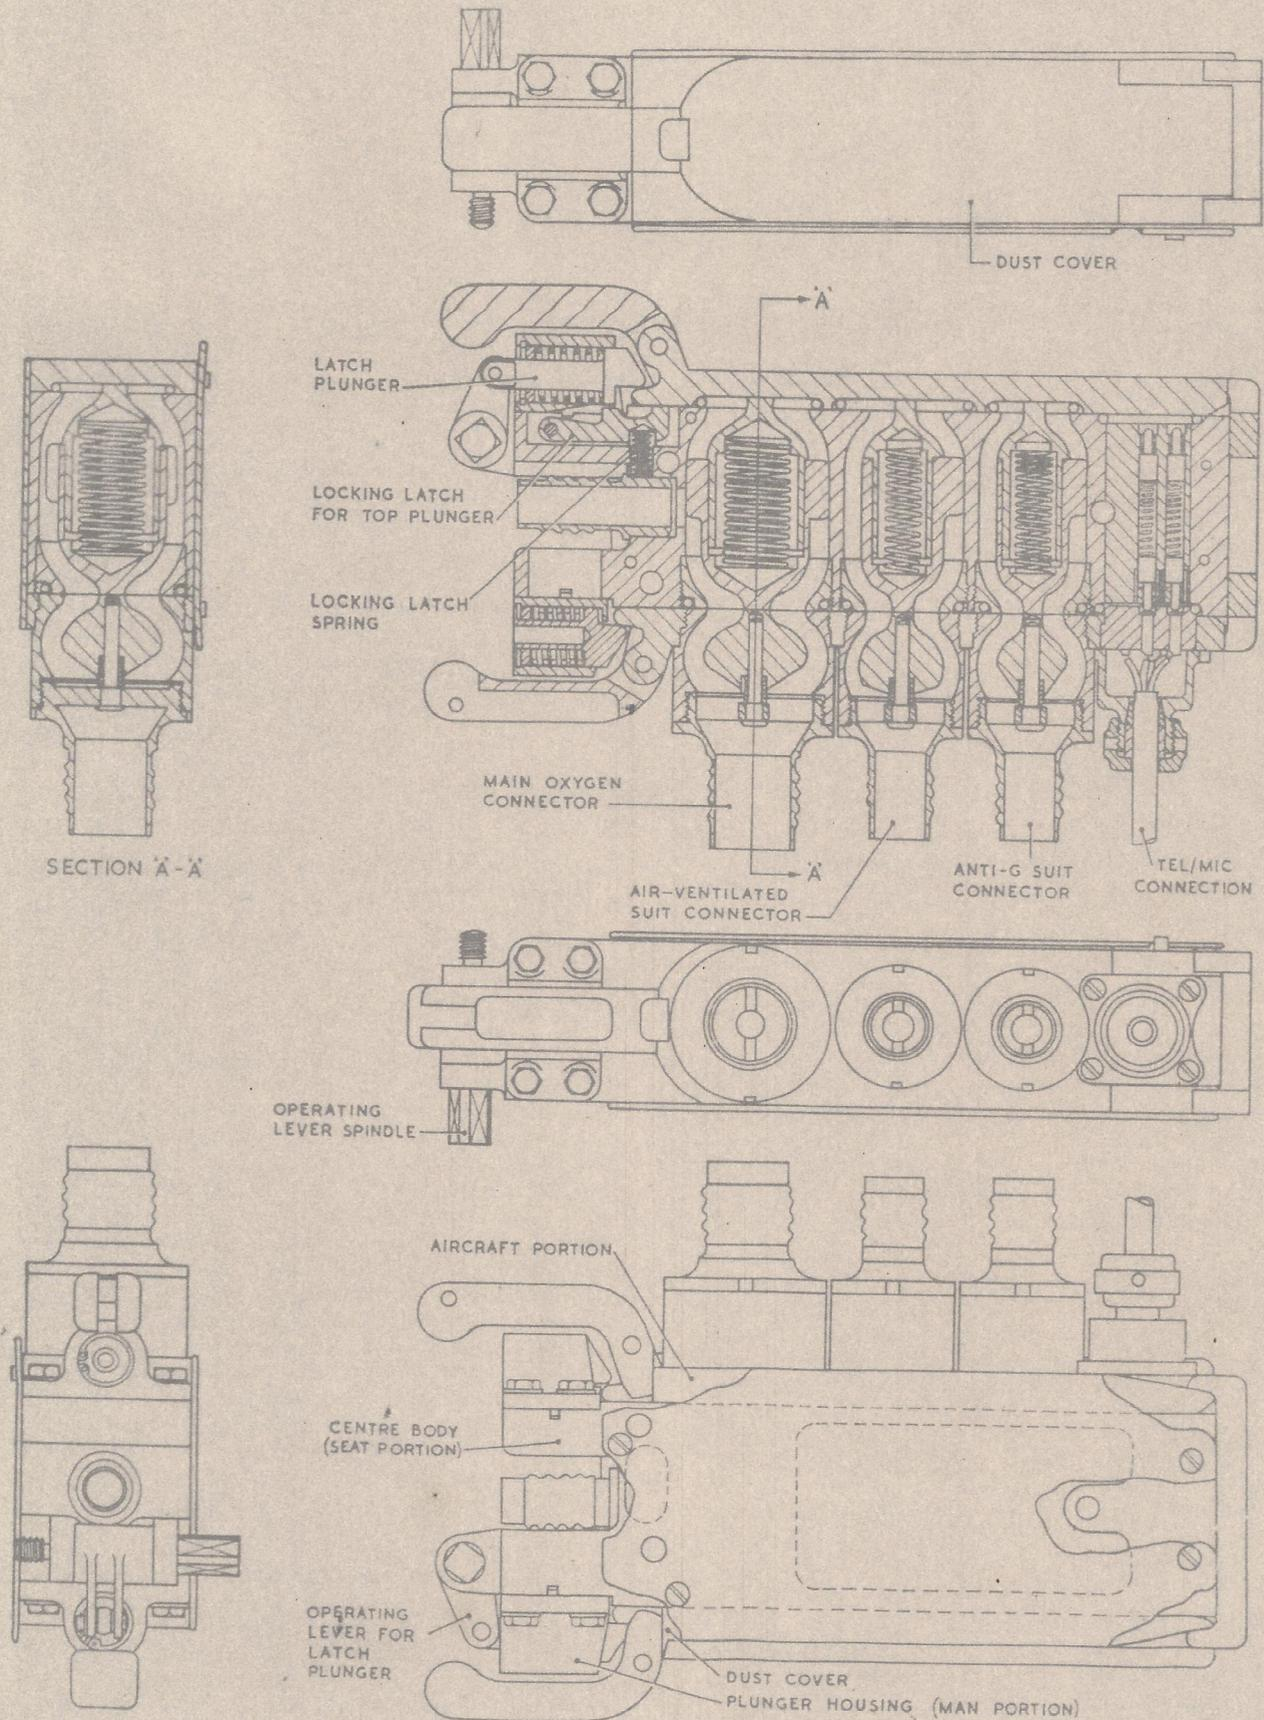

Fig. 1. Details of aircraft and seat components (with dust cover)
4. The personal equipment connector (fig. 1 and 2) consists of three main parts — the aircraft component, the seat component and personal (or man) component. The aircraft component remains in the aircraft at all times and is attached to the supply services by anti-kink hose. All services in this portion are provided with valves which shut automatically on disconnection. The object of this is to prevent the oxygen and air supplies from wasting to atmosphere and so reducing the supplies to other crew members. The Tel/Mic. contact is also broken when the components are separated and this is effected by a short static line anchored to the aircraft floor. As the ejection seat ascends the guide rail, the static line pulls the operating lever which retracts the plunger and so allows the aircraft component to fall away; no action is required by the seat occupant.